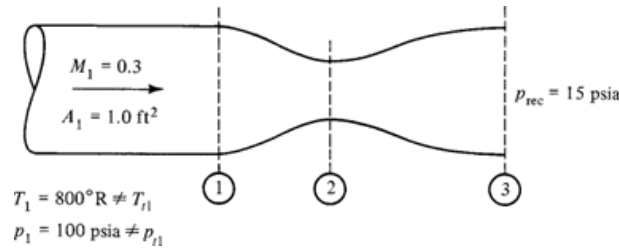

Figure P5.16
- 5.16** A converging-diverging nozzle (Figure P5.16) discharges air into a receiver where the static pressure is 15 psia. A $1 - \text{ft}^2$ duct feeds the nozzle with air at 100 psia, 800°R , and a velocity such that the Mach number $M_1 = 0.3$. The exit area is such that the pressure at the nozzle exit exactly matches the receiver pressure. Assume steady, one-dimensional flow, perfect gas, and so on. The nozzle is adiabatic and there are no losses.